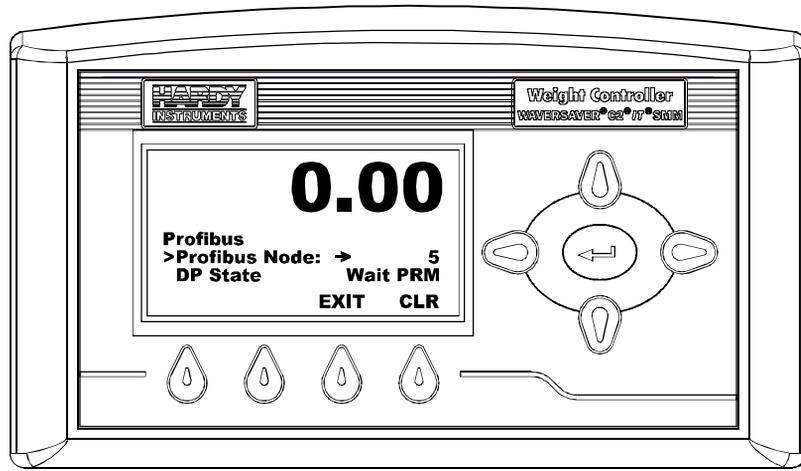

FIG. 175 DP STATE/WAIT PRM
- 00 = Status “Wait_Prm” (HI 4050 waiting for communications from the Master Device.) (See Fig. 175)